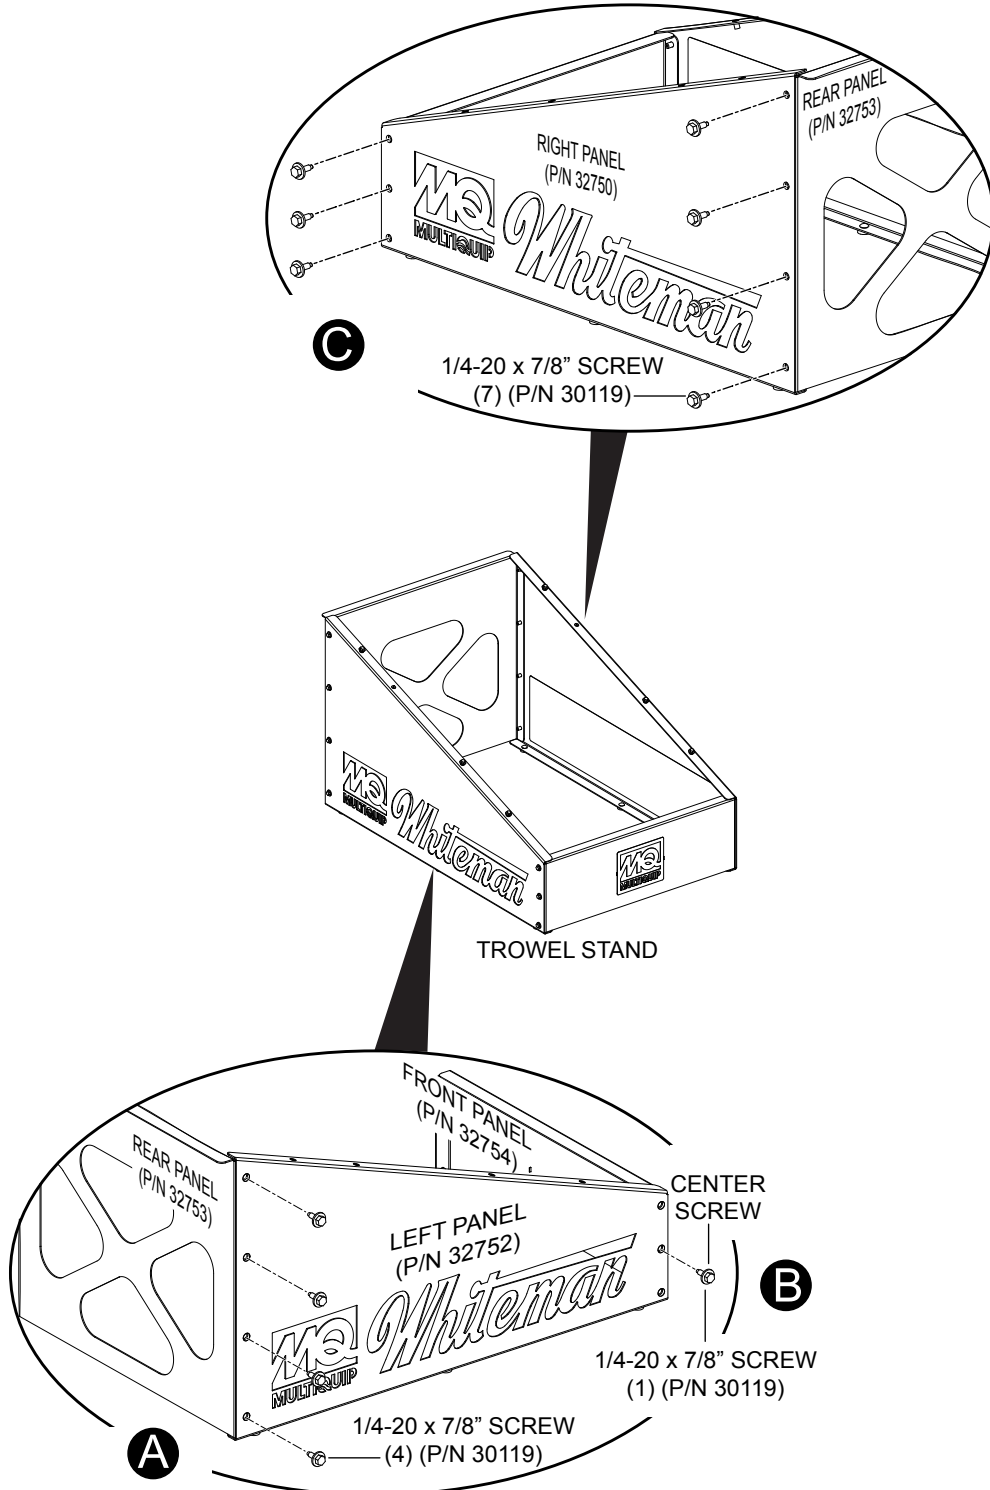

Figure 2. Trowel Stand Base Assembly
1. Secure the left panel (P/N 32752) to the rear panel (P/N 32753) using 1/4-20 x 7/8" screws (4) as shown in Figure 2, (A).
2. Secure the left panel to the front panel (P/N 32754) using a 1/4-20 x 7/8" screw (1) through the center screw hole as shown in Figure 2, (B).
3. Secure the right panel (P/N 32750) to the front and rear panels using 1/4-20 x 7/8" screws (7) as shown in Figure 2, (C).